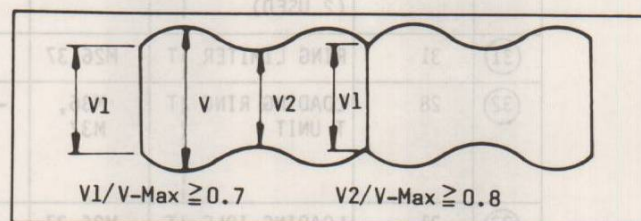

Fig. M24
- Play back the monoscope portion of the Alignment Tape and confirm that RF envelope appears, as in Fig. M24.
- If adjustment is required, loosen 2 Black Screws (D) and then slowly move the A/C Head Base back and forth using a screwdriver so that the envelope is at a maximum.